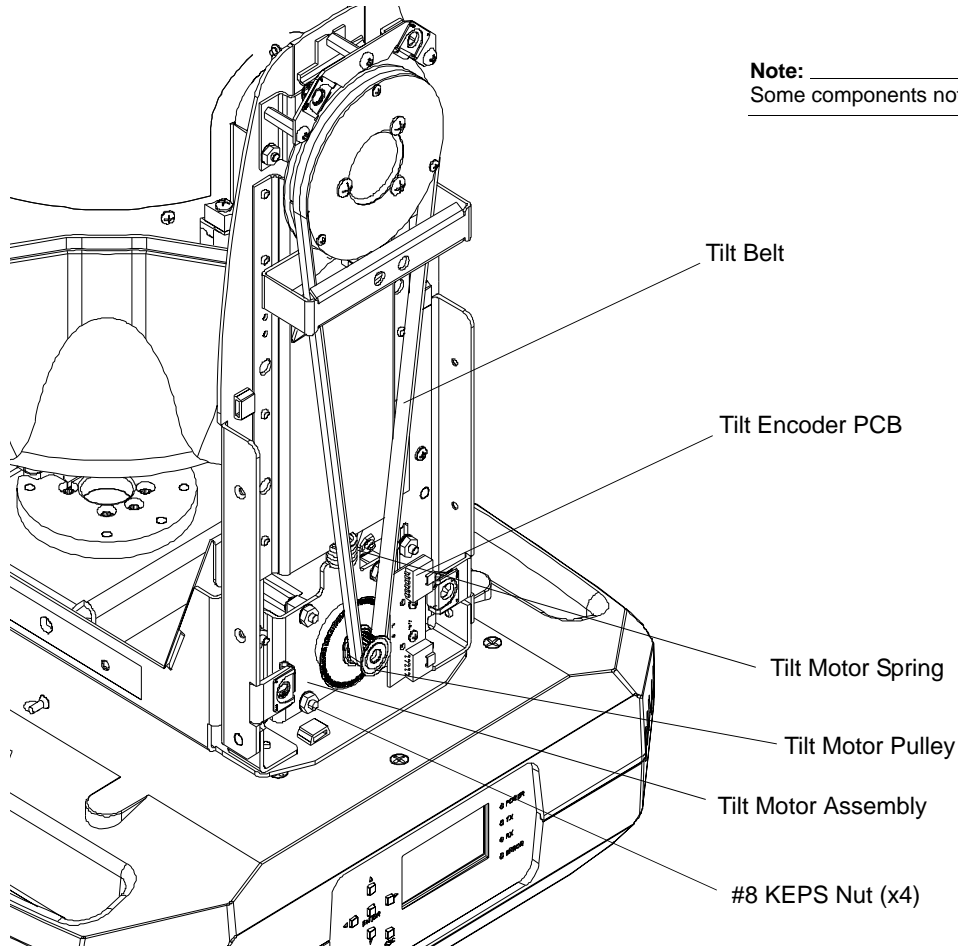

Figure 2-16: VLX Wash Tilt Motor Assembly
- Step 5. Using 11/32" nutdriver, loosen, but do not remove, four #8 KEPS nuts until tilt motor assembly will slide up towards spring (if tilt belt is squeezed together). Refer to Figure 2-16 for details.